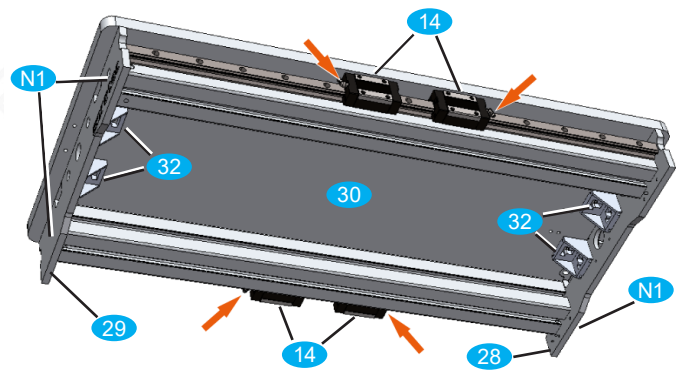

Fig. 6: Carriage X, end plates and brackets
- Equip the carriage with straight grease nipples so that they point outwards (red arrows in Figure 6).